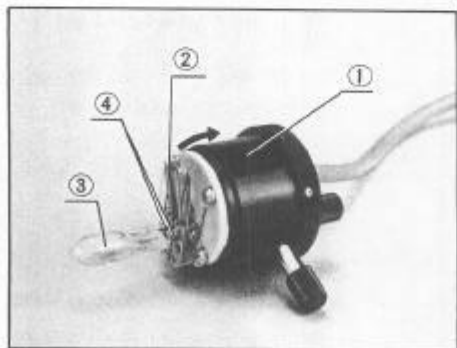

Fig. 11
1) Press the spring levers ② of the bulb socket ① in the direction of the arrow, and insert the bulb pins ③ into the socket holes ④. (Fig. 11)